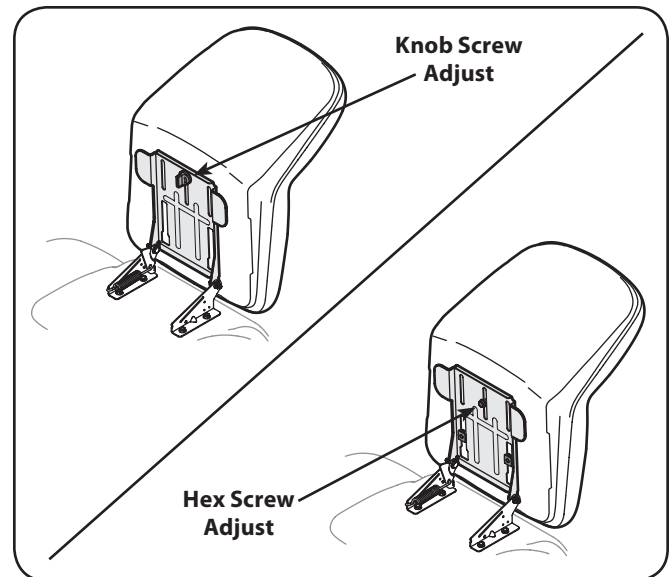

Figure 3-5
5. To adjust the position of the seat, loosen the hex screw (or knob screw if applicable) on the bottom of the seat. Slide the seat forward or backward as desired. Retighten the hex screw (or knob screw if applicable). See Fig. 3-5.